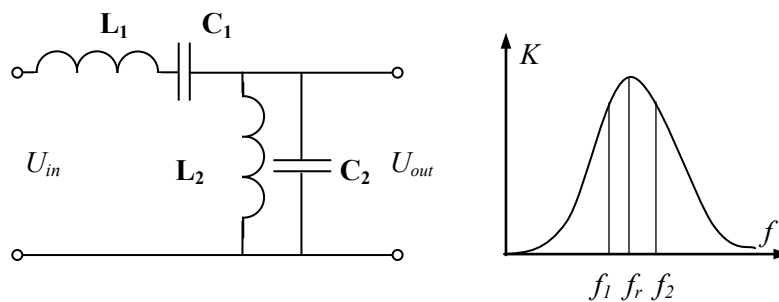

Fig. 2.29
**Passive band-pass filter.** Fig. 2.29 shows a *band-pass filter*, also referred to as *lead-lag filter*, and its frequency response. It is built by means of tank circuits. At very low frequencies, the series capacitor looks open to the input signal, and there is no output signal. At very high frequencies, the shunt capacitor looks short circuited, and there is no output also. In between these extremes, the output voltage reaches a maximum value at the resonant frequency